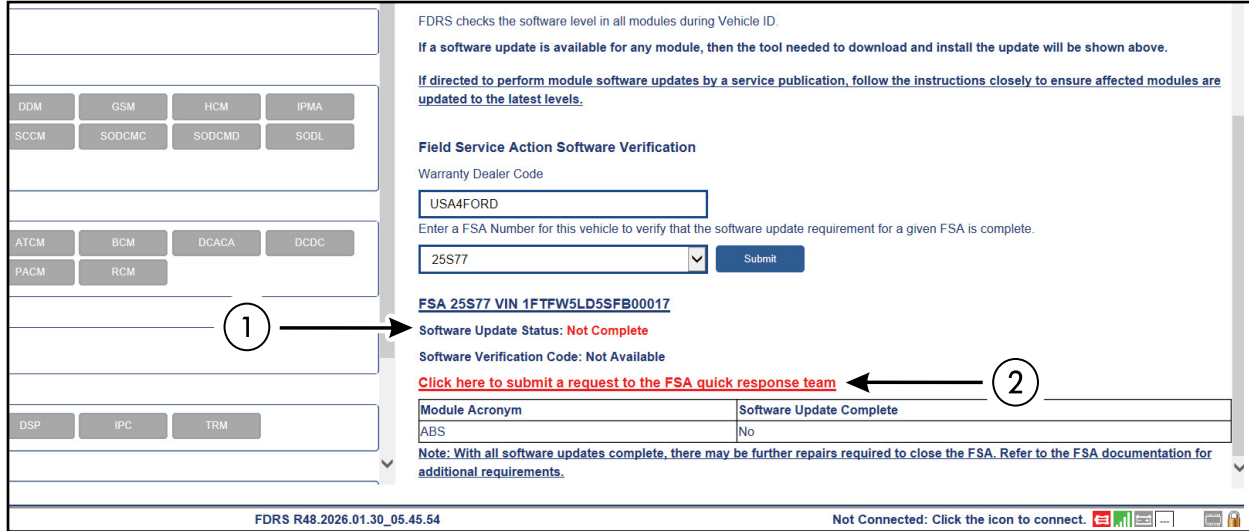

FIGURE 5
29. If the FDRS Field Service Action Software Verification Status displays "**An error occurred. Unable to retrieve FSA information**", please reattempt to generate an SVC code. The error can be caused by a connectivity or server issue where the status of the FSA cannot be verified. This is typically resolved upon reattempting to generate an SVC code. See Figure 5.